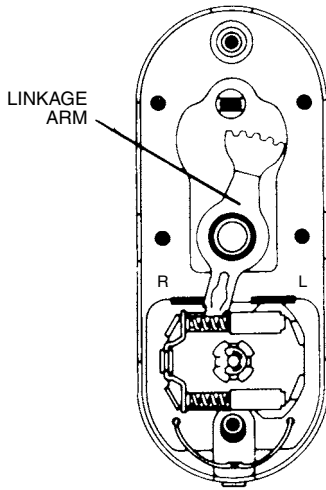

Figure 13.101 Right-hand conversion, Step 9.
9. Install the linkage arm (Fig. 13.101).